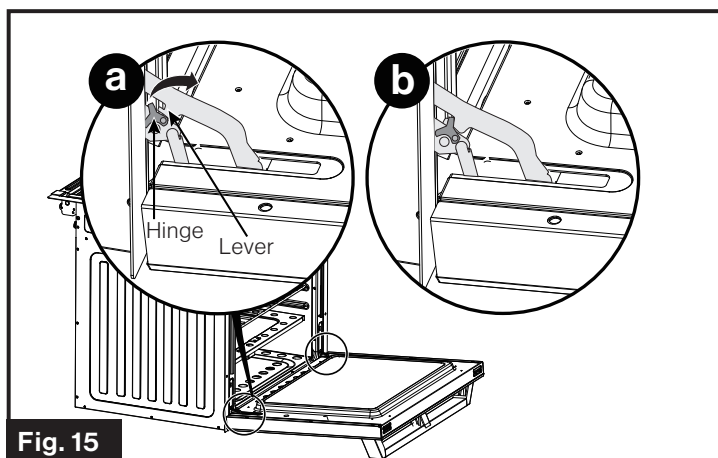

Fig. 15
3. Rotate the Hinge (one on each side) toward you to buckle the lever. (Fig. 15)